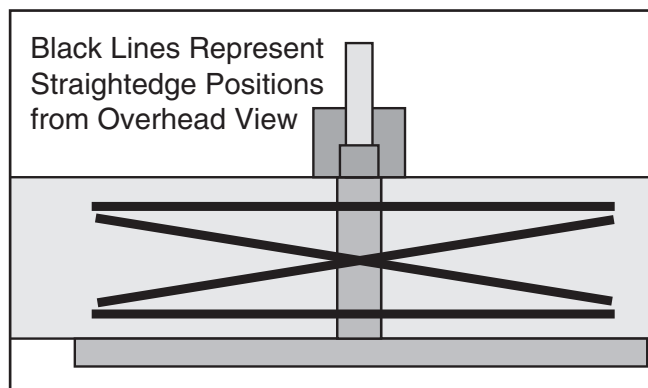

Figure 64. Straightedge positions for checking jointer table parallelism.
3. Place straightedge in one of the positions shown in **Figure 64**.